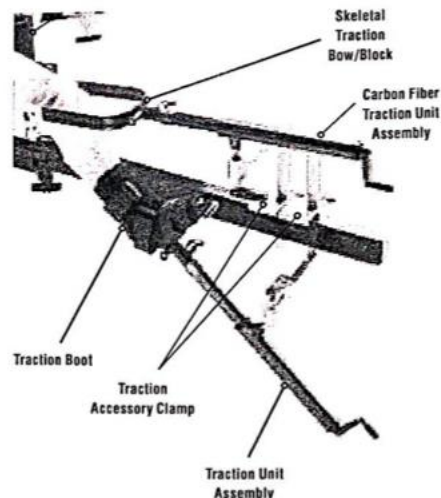

Figure 3-7. Using Skeletal Traction Bow/Block (Typical)
4. For other uses and adjustment of Carbon Fiber Traction Unit Assembly (see Figure 3-7):